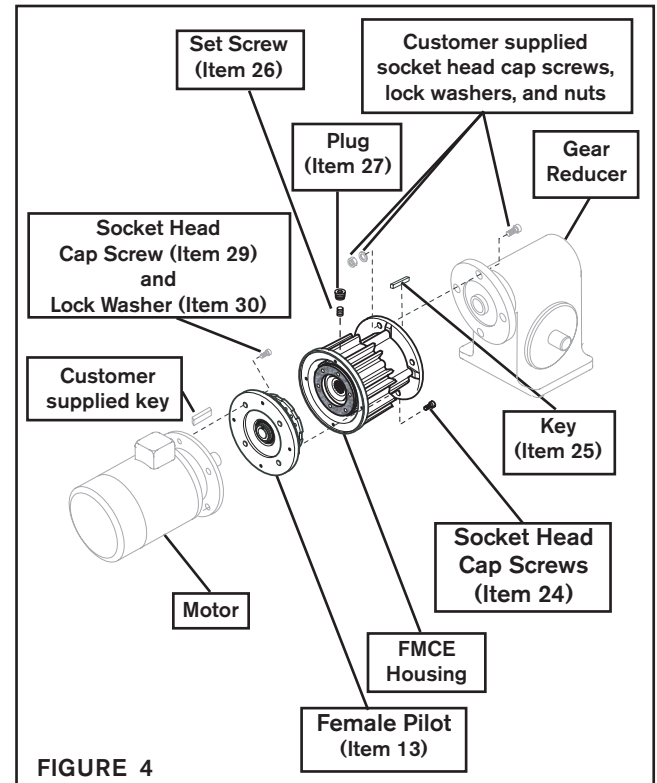

FIGURE 4
1. Insert the Key (Item 25) into the output shaft of the FMCE (See Figure 4).
2. Slide the FMCE output shaft into the gear reducer (See Figure 4).
3. Secure the FMCE to the gear reducer using customer supplied socket head cap screws, lock washers, and nuts (See Figure 4).
4. Insert the customer supplied key into the motor shaft keyway (See Figure 4).
5. Remove the Socket Head Cap Screws (Item 24) and the Female Pilot (Item 13); then, secure the Female Pilot to the motor face using Nexen supplied Socket Head Cap Screws (Item 29) and Lock Washers (Item 30); then, alternately and evenly tighten the Socket Head Cap Screws to the recommended torque (See Figure 4 and Table 2).
6. Slide the Female Pilot (Item 13) onto the motor shaft (See Figure 4).
7. Apply a drop of Loctite® 242 to the threads of the Socket Head Cap Screws (Item 24) (See Figure 4).
8. Secure the FMCE Housing (Item 1) to the Female Pilot (Item 13) using Socket Head Caps Screws (Item 24). Then, alternately and evenly tighten the Socket Head Cap Screws to the recommended torque (See Figure 4 and Table 2).
9. Align the Set Screw (Item 26) in the Drive Disc (Item 4) with the hole in the FMCE Housing (See Figure 4).
10. Tighten the Set Screw (Item 26); then, install the Plug (Item 27) (See Figure 4).